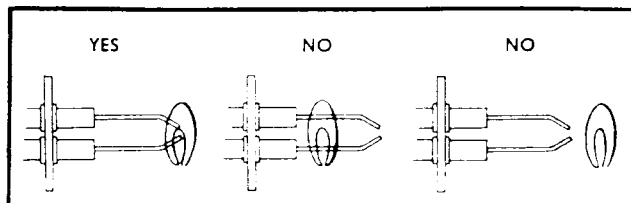

Figure 1
2. Temporarily mount electrode directly over burner parts in blue part of flame pattern. Electrode tips should be 1/4 to 1/2-inch above parts. Mount electrodes so that both tips are immersed approximately 1/2-inch into the flame with 1/8-inch spark gap directly over a port. See Figure 1.